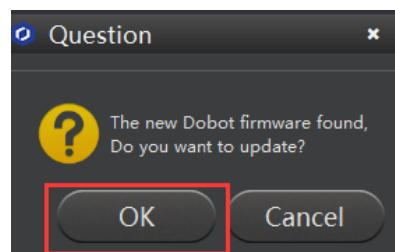

Figure 5.88 Confirm the firmware upgrade
2. Click **OK**, as shown in Figure 5.88.